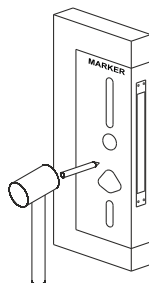

Fig. 1
- Mark all the hole centers and mortise body cavity shape on door as mentioned on MARKER. Ref Fig. 1